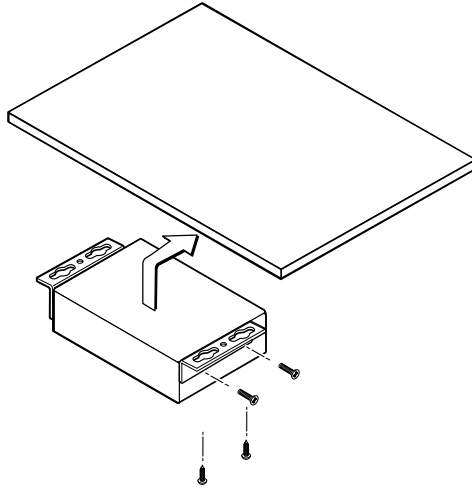

Figure 2-2 — Under-desk mounting the unit
2. Secure the mounting brackets to the unit with the provided machine screws (figure 2-2).
7. Slide the unit slightly in or out, then tighten all four screws to secure the unit in place (figure 2-2).